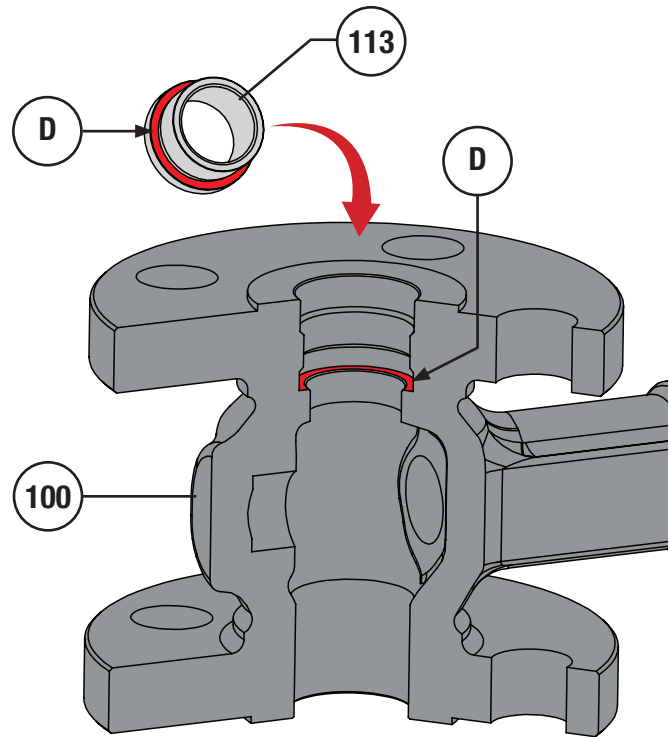

Figure 37 Lapping Compound Placement
- 1 Carefully apply a small amount of fine grit Clover® compound (Key D) to the shoulder of the seat ring (Key 113) as shown in Figure 37.